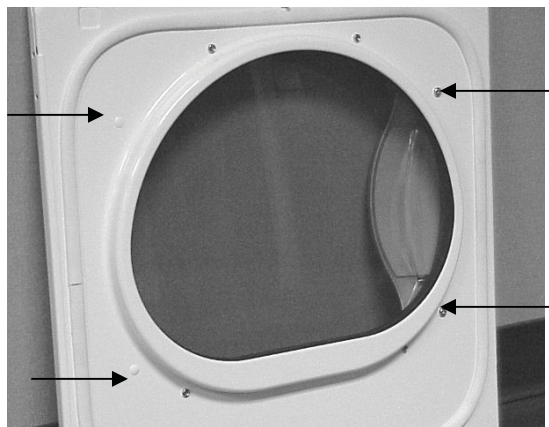

Figure 4
5. Remove two (2) door handle screws and two (2) hole plugs from door. Again taking care not to scratch paint on door. (Figure 4)